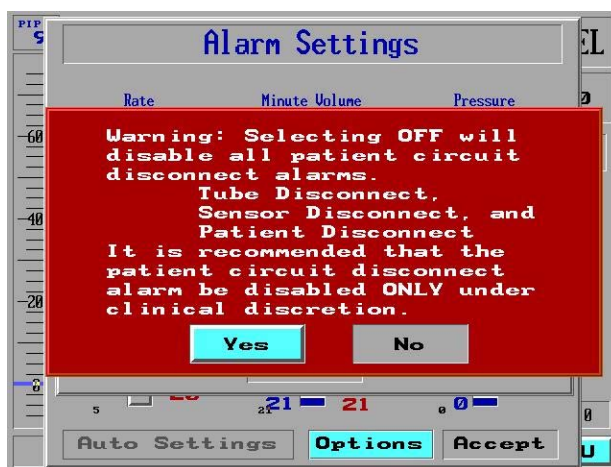

Figure 147: The Patient Circuit Disconnect Alarm Off Warning
5. If you select **OFF**, a warning pop-up window appears (Figure 147):